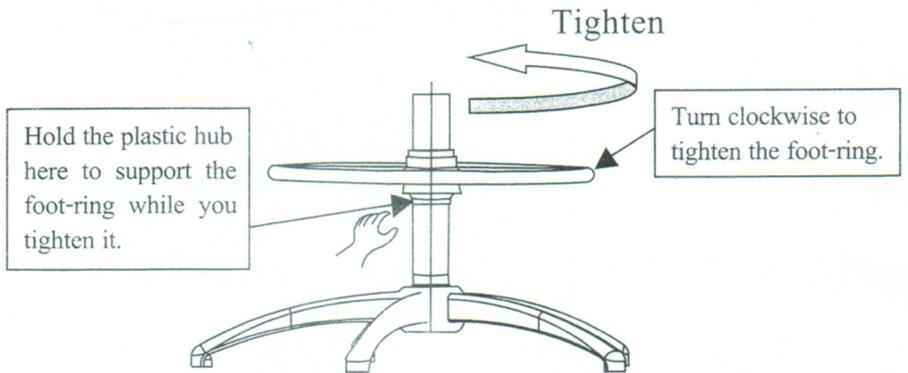

Fig. 4
2. Assembly - Position the foot-ring on the gas cylinder at the desired height. Hold the bottom of the plastic hub with one hand and the outer ring with the other. Turn the outer ring clockwise to tighten the foot-ring. (Refer to Fig.4)
Adjust the height as required and then tighten again. (Refer to Fig. 4)